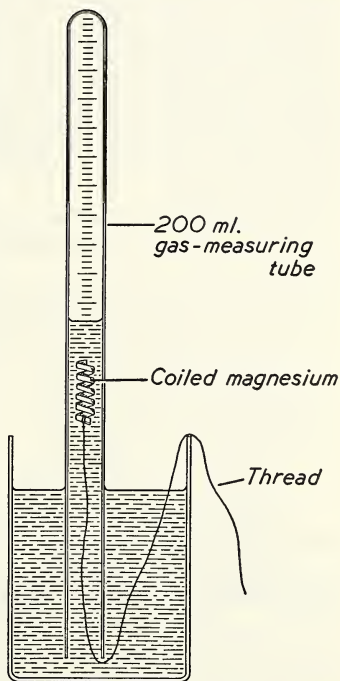

Fig. 52. Determining the gram-equivalent weight of magnesium.
2. Fill a deep battery jar or deep sink three-quarters full of water. Place about 20 ml. of concentrated hydrochloric acid in the gas-measuring tube (or 10 ml. if a 100 millilitre cylinder is used), and then slowly fill it with water by pouring along the side of the *sloping* tube to avoid, as much as possible, mixing the acid and the water. Place a piece of paper or the palm of the hand over the open end of the tube, and invert it in the water in the jar (or sink). Remove the paper or hand and *immediately* push the weighed magnesium coil up into the tube (Fig. 52). Support it there with a finger until it begins to rise in the tube, and let it continue to rise to the top of the solution. If the magnesium should stick to the side of the tube as the action proceeds, a pull on the thread will return it to the acid solution.